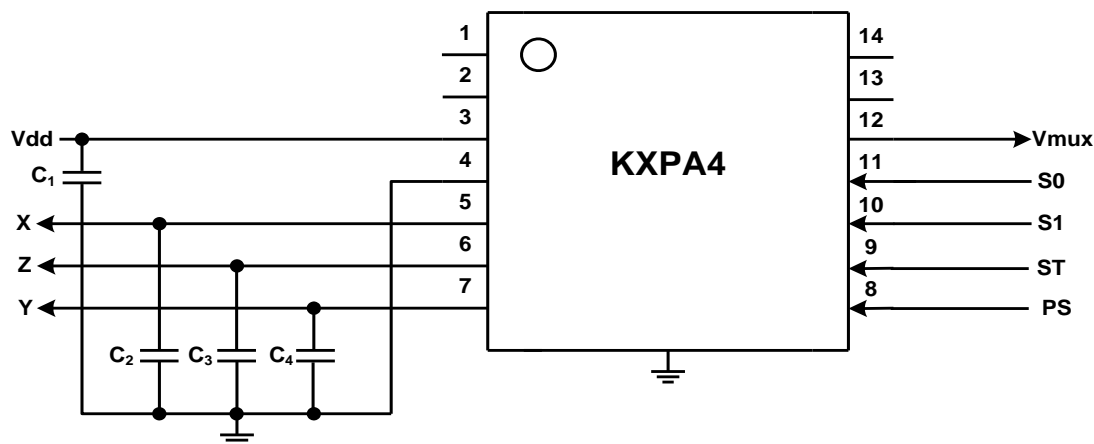

Figure 5: KXPA4 application circuit with low pass filters
To calculate the noise (or resolution) of an accelerometer in the absence of environmental vibration, one uses the noise density (ND) parameter. This parameter can be found in Figure 5 above for a variety of Kionix accelerometers. Technically, this is an RMS noise-acceleration density – similar to an RMS noise-voltage density. The following equation is used to calculate the RMS acceleration noise (a_n) you would measure in a noise bandwidth B :